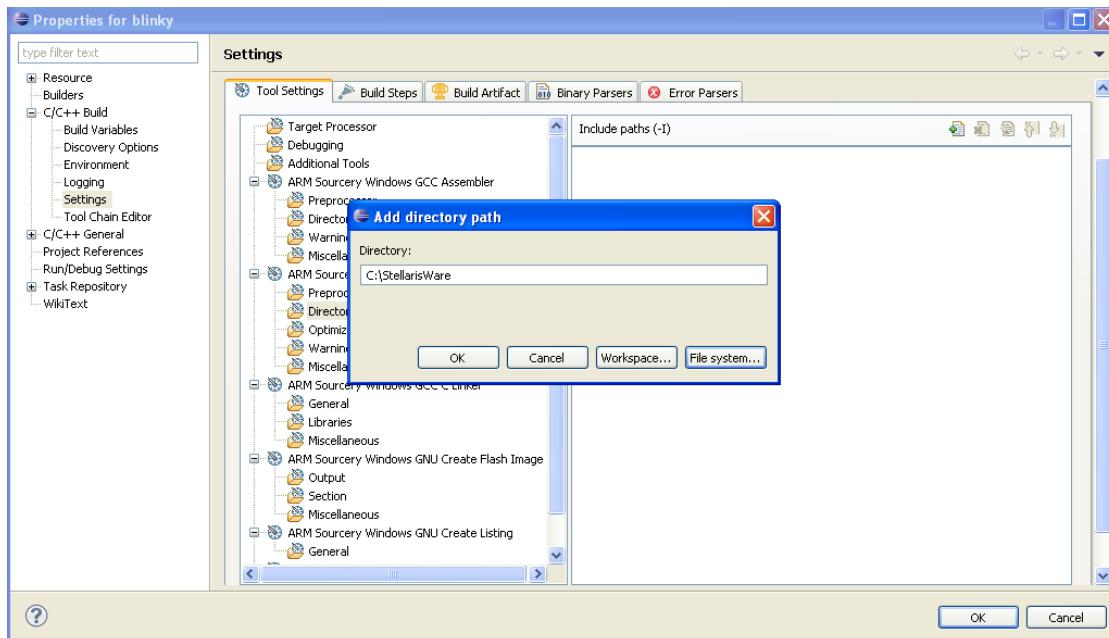

Figure 11.10 Project Properties
- Under Settings -> Tool Settings -> ARM Sourcery Windows GCC C Compiler -> Directories. Include the directory paths as shown in Figure 11.10 and 11.11.